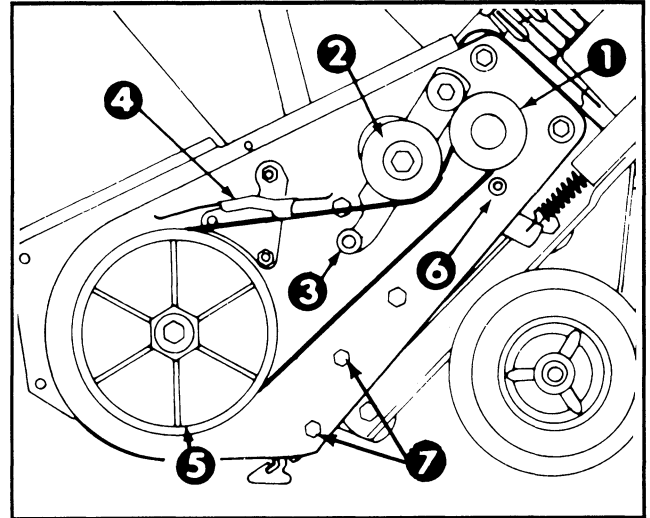

Figure 14
3. REMOVING BELT (Fig. 14) — Push down on idler pulley allowing belt to be removed from rotor pulley, brake arm assembly, and engine pulley.
4. INSTALLING BELT (Fig. 14) — Loop belt around engine pulley, under idler pulley over roller, thru brake assembly and around rotor pulley.